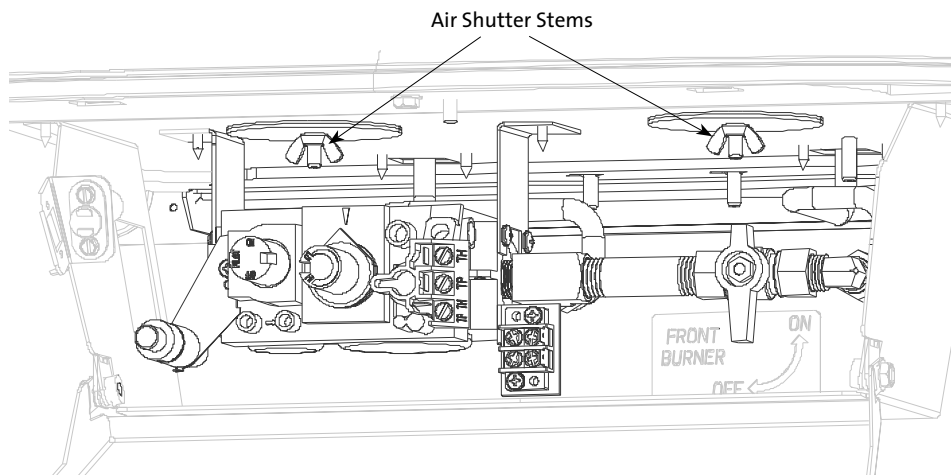

Figure 5.8.
16. Adjust the Air Shutters. Fig. 5.8